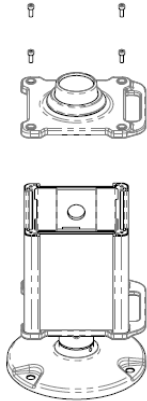

Figure 4-5
1. Unscrew four screws on the upper cover of the shell, take out the front cover-upper (Figure 4-5) and loosen the connecting cable relating to the circuit board.